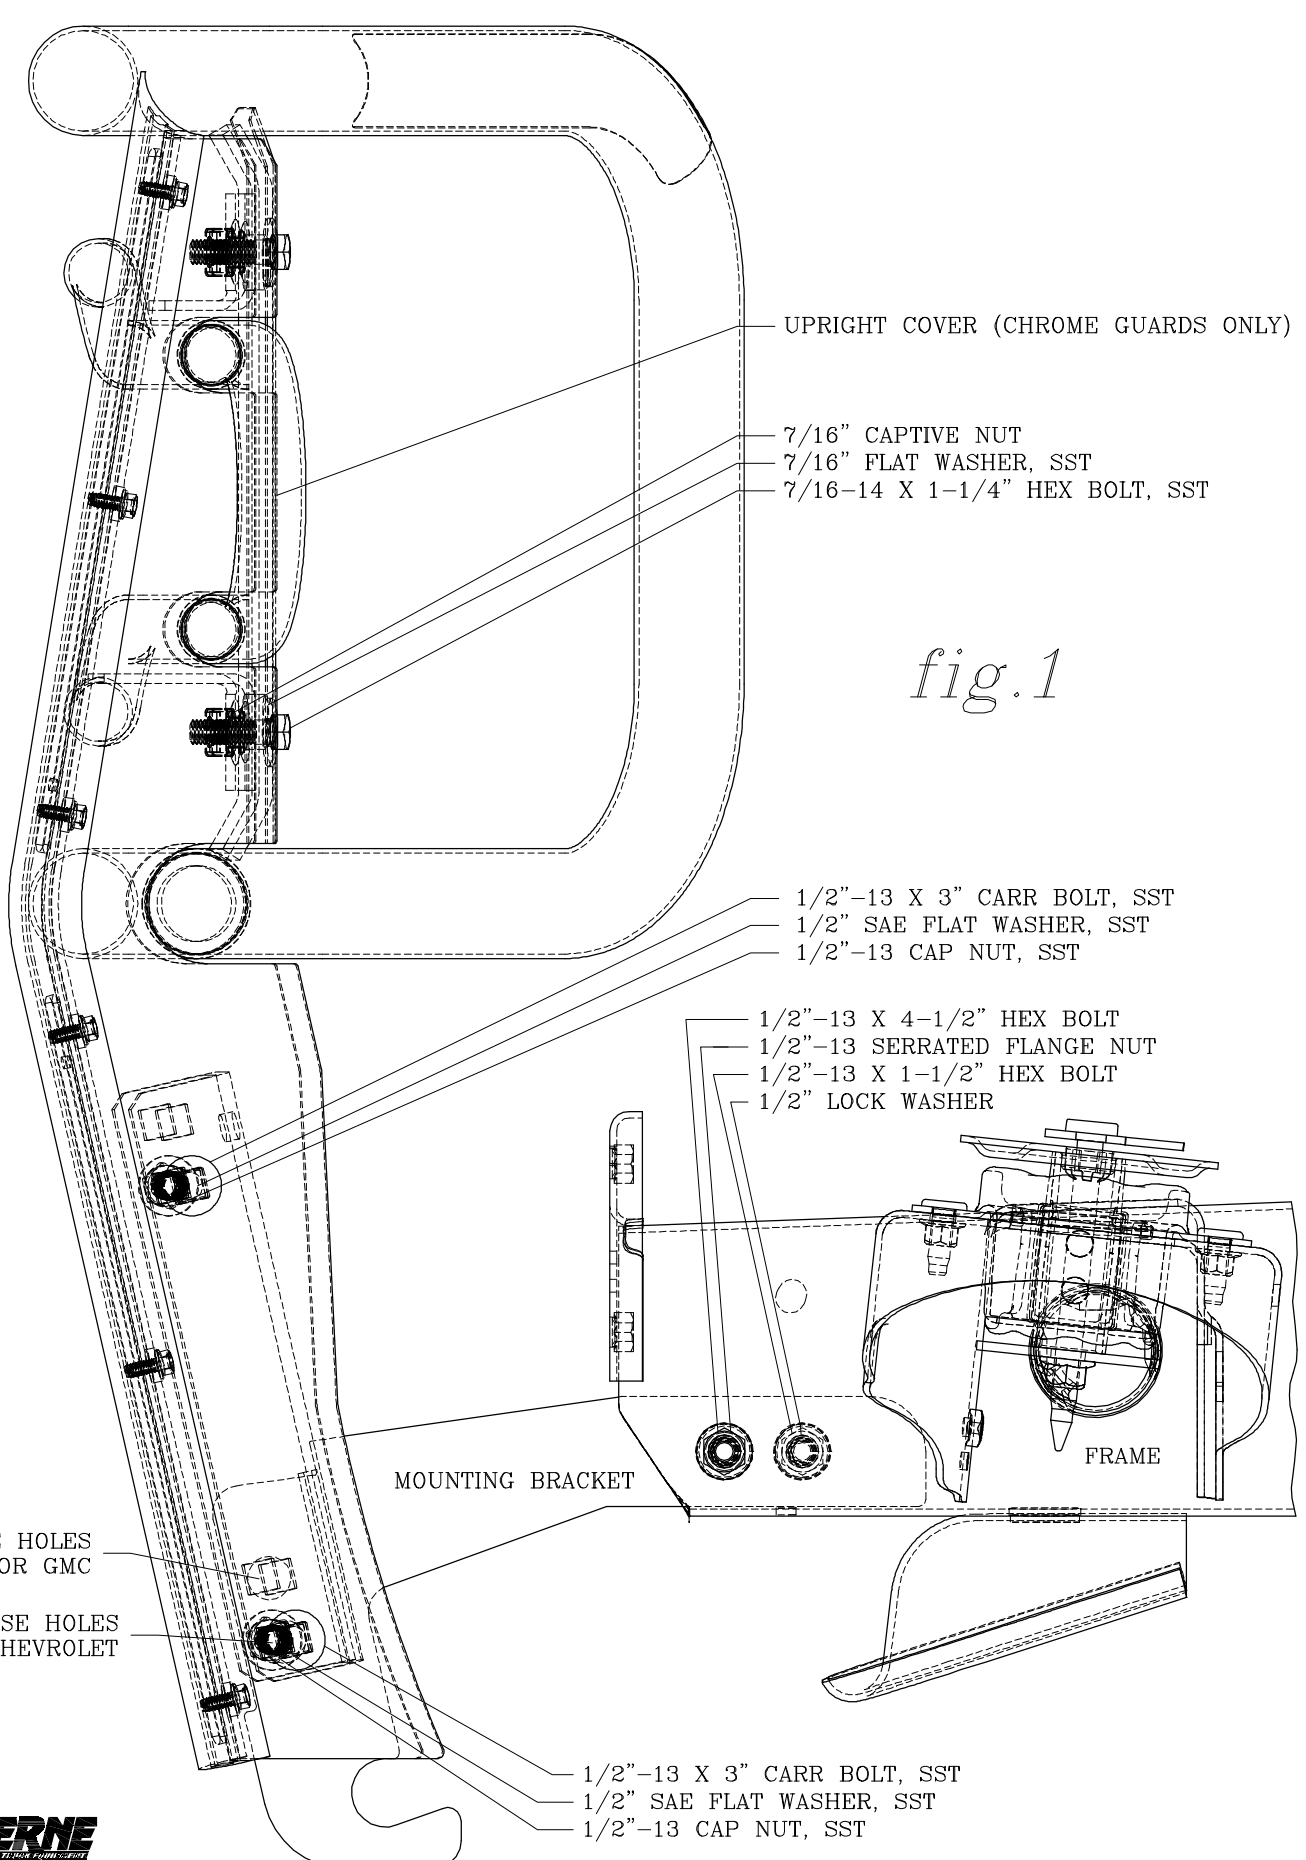

fig.1
REFER TO FIGS. 1 & 2 FOR GUARD ASSEMBLY INSTRUCTIONS 2-11
8. LOWER THE CENTER RING ASSEMBLY (ITEM #1) DOWN BEHIND THE UPRIGHTS AND INSTALL IN THE SLOTS OF THE UPRIGHTS AS SHOWN IN FIG. 1 & 2. MAKING SURE THE UPRIGHTS ARE CENTERED AND PARALLEL WITH THE BARS IN THE RING, FASTEN WITH UPRIGHT COVERS (ITEM #18) (**CHROME GUARDS ONLY**), 7/16"-14 X 1-1/2" HEX BOLTS (ITEM #12), AND 7/16" FLAT WASHERS (ITEM #20) INTO THE 7/16"-14 CAPTIVE NUTS (ITEM #16) IN THE UPRIGHT MOUNTING PLATES. TIGHTEN TO 40 FOOT-POUNDS OF TORQUE.